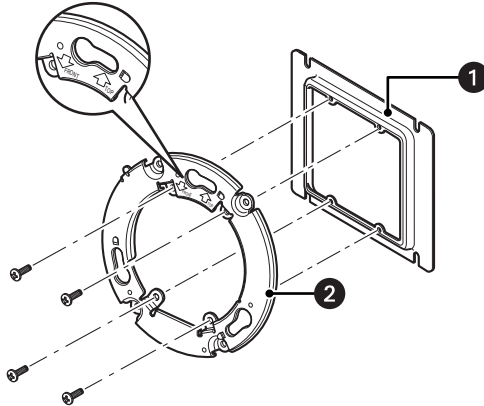

Figure 6. Mounting the Camera Attachment to a 2-Gang Junction Box
1. Mount the camera attachment (supplied) to the junction box installed on the wall or ceiling using the four Phillips screws (supplied). The recommended tightening torque is 0.78 N·m (0.58 lbf·ft). Refer to Figure 6.